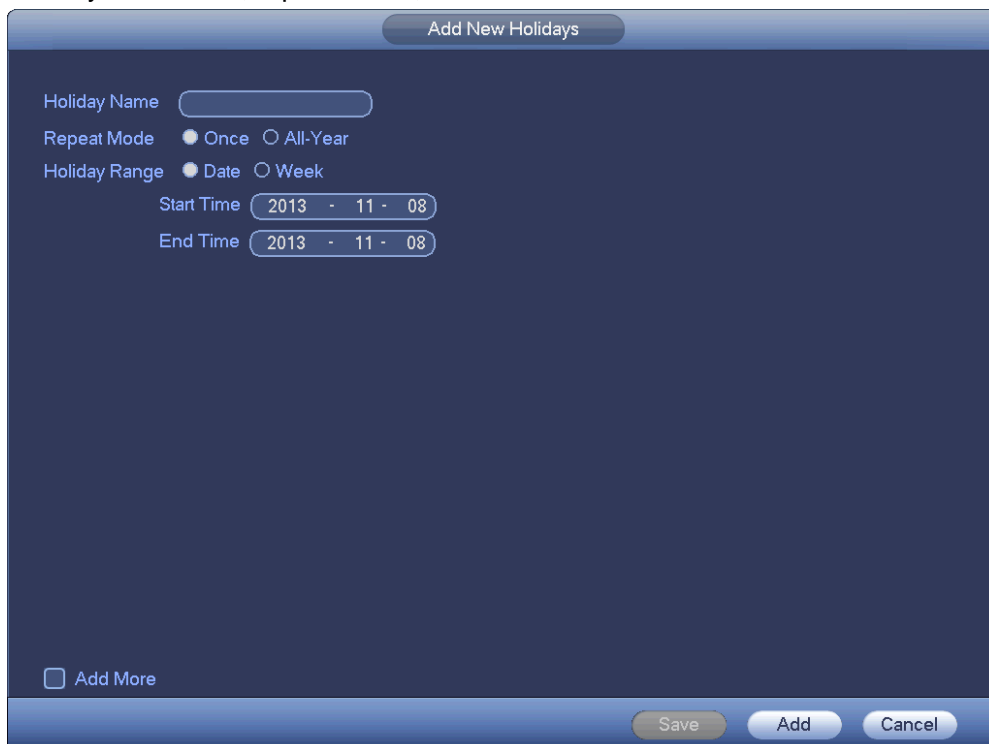

Figure 3-61
- b) Click Add new holiday button, you can see an interface shown as in Figure 3-61. Here you can set holiday date name, repeat mode, start time/end time and etc.